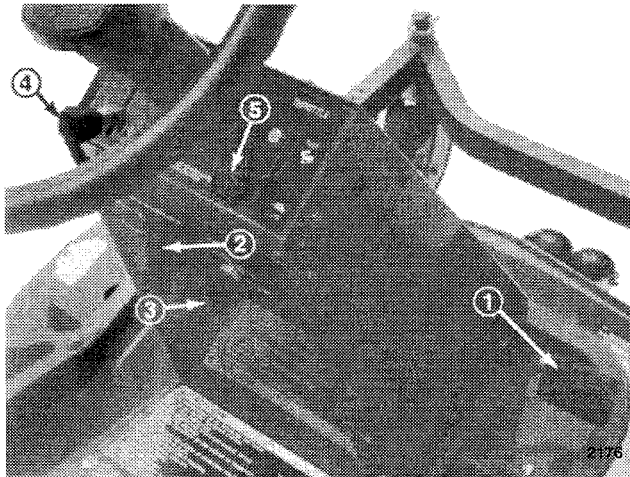

Figure 9
2. Release pressure on the traction pedal to stop movement (Fig. 9).
3. To engage lift cover and move the PTO switch to the “ON” position (Fig. 9).
1. Closing the cover moves the PTO switch to the “OFF” position (Fig. 9).
1. To go forward, place your foot on the traction pedal (Fig. 9).
3. Slowly press on the upper pad of the traction control to move forward (Fig. 9).
1. To go backward, place your foot on the traction pedal (Fig. 9).
3. Slowly press on the lower pad of the traction pedal to move rearward (Fig. 9).